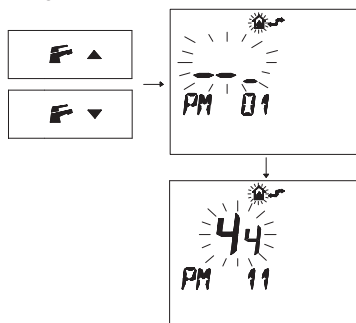

Fig. 7.33
- Press buttons **F**▲ or **F**▲ to display the "PM11" program of the pump post-circulation (Fig. 7.33).